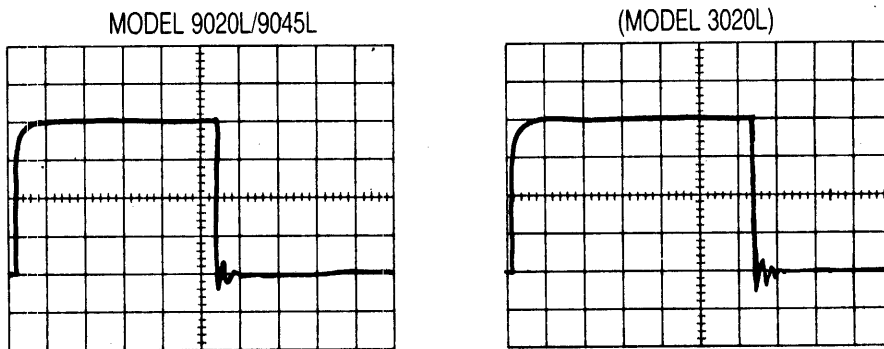

Figure 7-4 Read Data Pulse Check
7.3.3 Read Data Pulse Check (Figure 7-4)